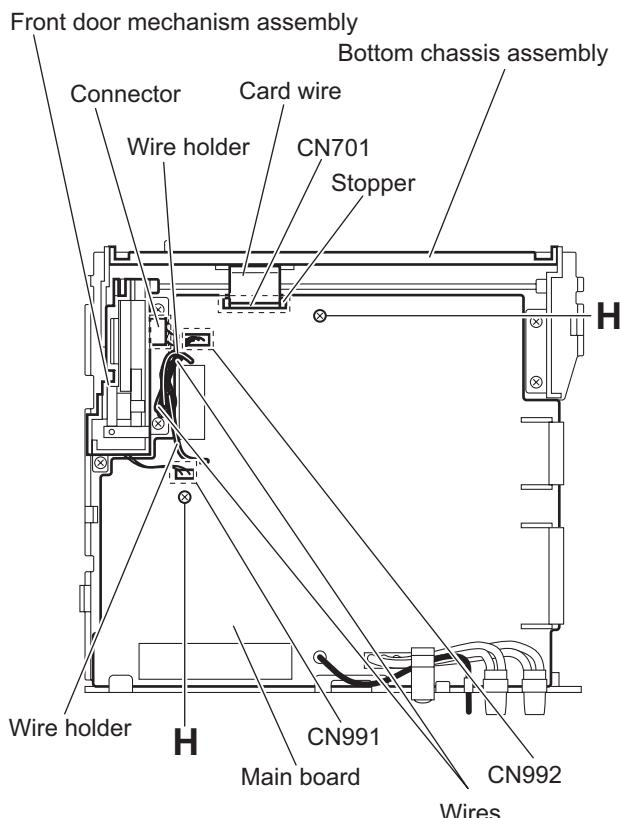

Fig.11
- (2) From the top side of the bottom chassis assembly, remove the two screws **H** attaching the main board to the bottom chassis assembly. (See Fig.11)
- (3) Release the stopper of the connector CN701 on the main board in an upward direction, disconnect the card wire from the connector CN701. (See Fig.11)
- (4) Disconnect the wire from the connector of the front door mechanism assembly. (See Fig.11)
- (5) Disconnect the wire from the connectors CN991 and CN992 on the main board. (See Fig.11)